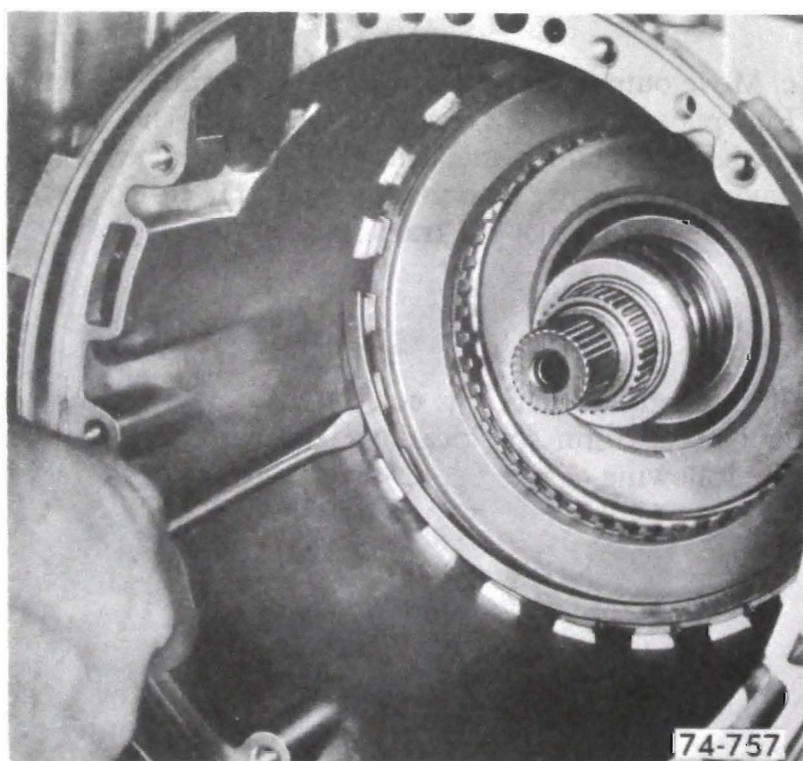

Figure 76-92
12. Remove intermediate clutch backing plate to case snap ring. See Figure 76-92.